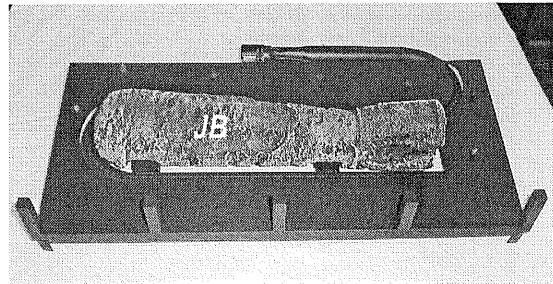

FIGURE J-1
J. LOG INSTALLATION. See Figures J-1 - J-3.
1. Align the notches in the bottom of the 'JB' log onto the brackets in the center of the burner cover as shown in figure J-1.